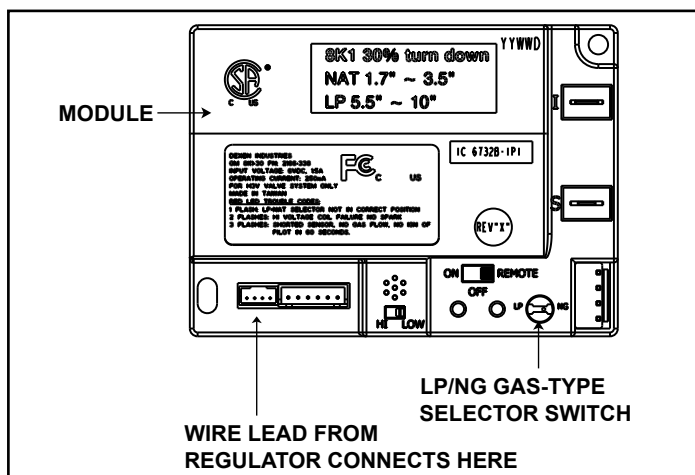

Figure 3.7 Control Module
1. The control module has an ON/OFF/REMOTE selector switch that must be set. Figure 3.7.
2. If using the wired switch in the control cavity with the module in REMOTE mode, the flame output can be adjusted with the HI/LO selector switch on the module. Figure 3.7. Note that the flame HI/LO selector switch will become inactive once an optional remote control (RC200/RC300) is programmed to the control module. Note that the control module will always ignite the stove on HI and remain so for the initial 10 seconds of operation. If the HI/LO is switched to the LO position, the flame output will automatically drop to the lowest setting after the flame has been established for 10 sec. After this 10 second period, the flame can be adjusted from HI to LO with the switch.
- Locate the module selector switch. (Figure 3.7).
- Wait five (5) minutes to allow possible accumulated gas to clear.